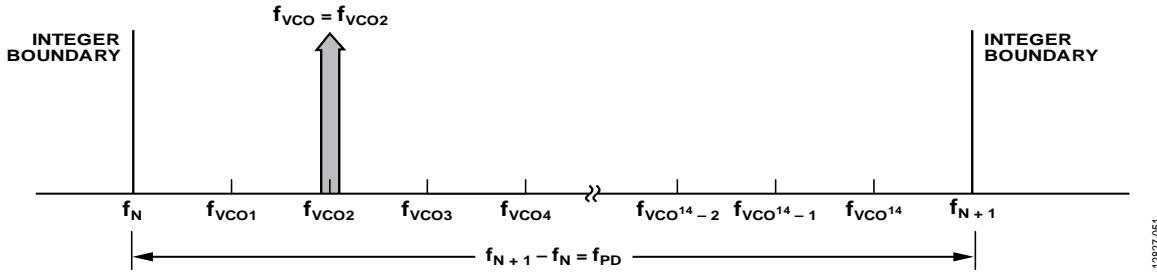

Figure 46. Exact Frequency Tuning
f_{VCOk} is the channel step frequency where $0 < k < 2^{24}-1$, as shown in Figure 46.
(the denominator or the modulus of the Δ - Σ modulator) so that the Δ - Σ modulator phase accumulator repeats at an exact period related to the interval frequency ($f_{VCOk} - f_{VCO(k-1)}$) in Figure 46. Consequently, the shortened accumulator results in more frequent repeating patterns and as a result often leads to spurious emissions at multiples of the repeating pattern period, or at harmonic frequencies of $f_{VCOk} - f_{VCO(k-1)}$. For example, in some applications, these intervals might represent the spacing between radio channels, with the spurious occurring at multiples of the channel spacing.
When multiple, equally spaced, exact frequency channels are needed that fall within the same interval (that is, $f_N \leq f_{VCO_k} < f_{VCO_{k+1}}$) where f_{VCO_k} is shown in Figure 46 and $1 \leq k \leq 2^{14}$, it is possible to maintain the same integer-N (Register 0x03) and exact frequency register (Register 0x0C) settings and only update the fractional register (Register 0x04) setting. The exact frequency channel mode is possible when Equation 16 is satisfied for at least two equally spaced adjacent frequency channels, that is, the channel step size.
To configure the HMC832 for exact frequency channel mode, initially and only at the beginning, the integer (Register 0x03) and exact frequency (Register 0x0C) registers need to be programmed for the smallest f_{VCO} frequency (f_{VCO1} in Figure 46), as follows:
1. Calculate and program the integer register setting Register 0x03 = $N_{INT} = \text{floor}(f_{VCO1}/f_{PD})$, where f_{VCO1} is shown in Figure 46 and corresponds to the minimum channel VCO frequency. Then, the lower integer boundary frequency is given by $f_N = N_{INT} \times f_{PD}$.
where $f_N = \text{floor}(f_{VCO1}/f_{PD})$, and f_{VCO1} , as shown in Figure 46, represents the smallest channel VCO frequency that is greater than f_N .
4. To change from Channel 1 ($f_{VCO1} = 2800.2$ MHz) to Channel 2 ($f_{VCO2} = 2800.3$ MHz), only Register 0x04 needs to be programmed, as long as all of the desired exact frequencies, f_{VCOk} (Figure 46), fall between the same integer-N boundaries ($f_N < f_{VCOk} < f_{N+1}$). In that case,